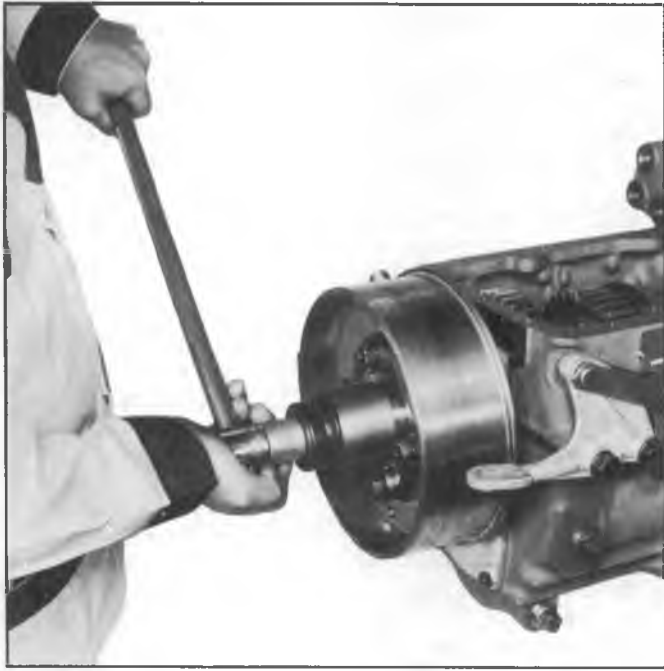

Fig. 4N--Removing Brake Drum Retaining Nut
**NOTE:** Lock transmission in two gears before removing brake drum retaining nut (fig. 4N).